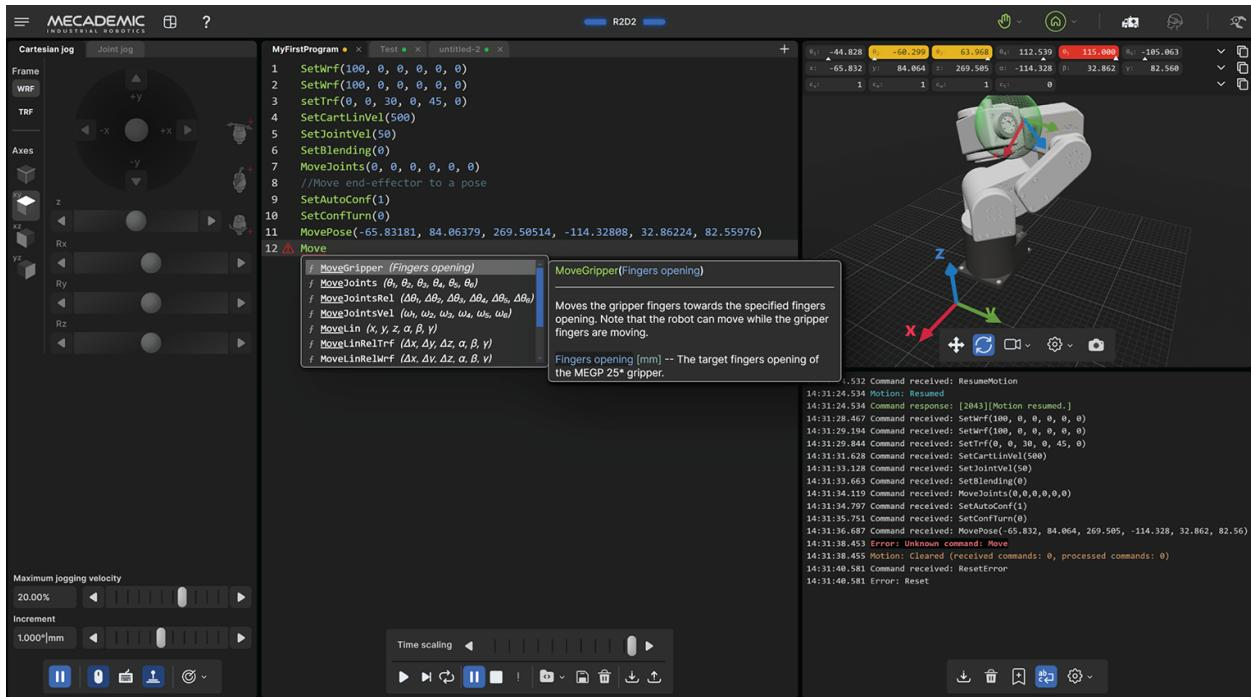

Figure 25: Overview of the MecaPortal
2. Meca500’s web interface, called MecaPortal, should load instantaneously (Figure 25). The MecaPortal will be described in detail in a separate manual (MC-OM-MECA500).